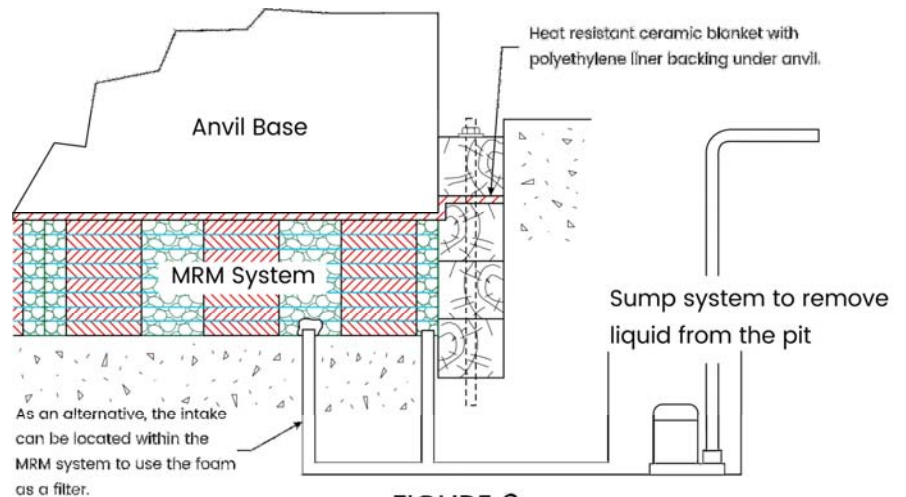

FIGURE 3
7. For foundation designs not using backfill, see Figure 3 for foundation guidelines.